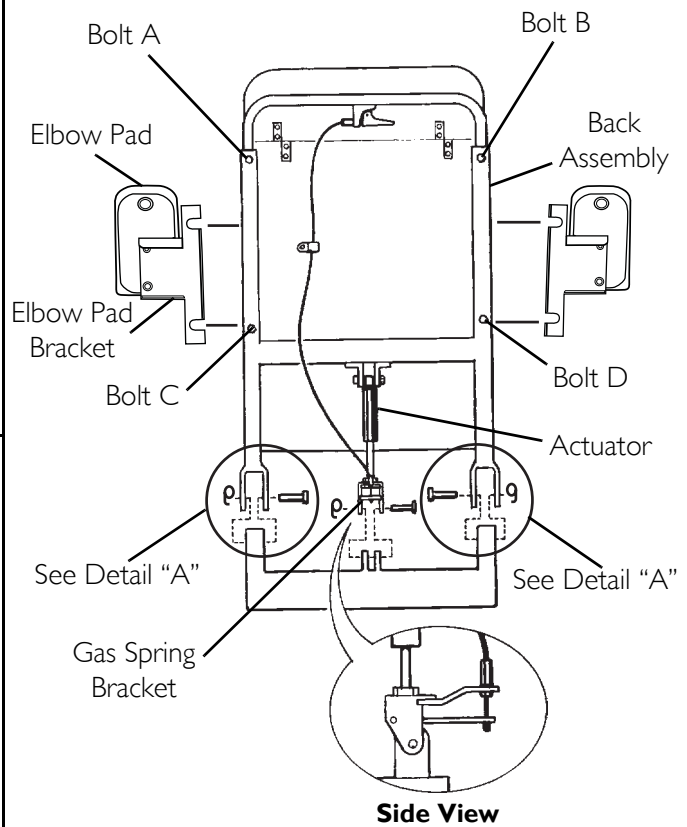

FIGURE 3.2 Assembling the Recliner - Assembling Model IH6077A
NOTE: For this procedure, refer to FIGURE 3.2 on page 16.
4. Position the back assembly over the seat frame as shown in Detail "A" in FIGURE 3.2 on page 16.
5. Align the holes in the back assembly brackets with the holes in the seat frame as shown in Detail "A" in FIGURE 3.2 on page 16.
6. Insert a clevis pin through back assembly bracket and seat frame and secure with a retaining ring as shown in Detail "A" in FIGURE 3.2 on page 16. Repeat for opposite side.